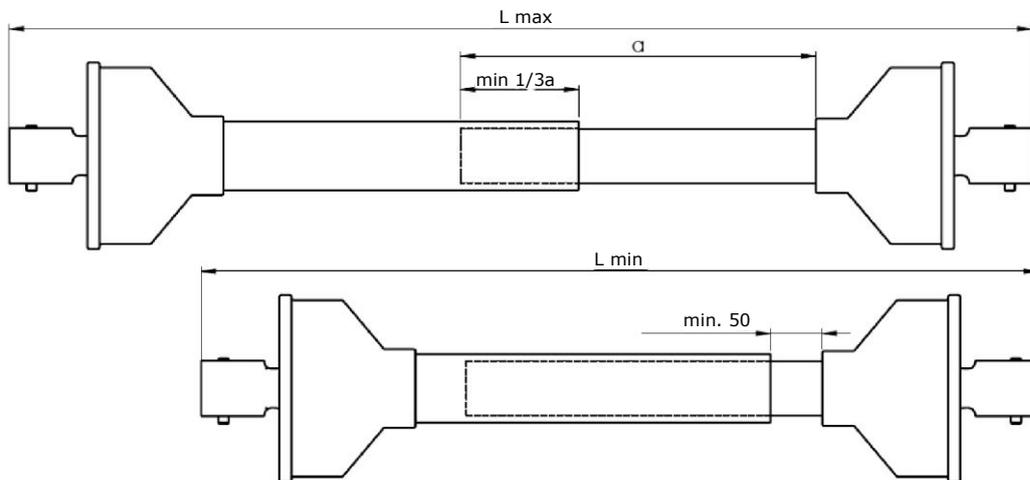

Figure 16. Adjusting the length of the shaft when the spreader is connected to the tractor
- Make sure that the PTO shaft transmitting the tractor's drive is of sufficient length when connected in all possible positions of the tractor in relation to the machine (Figure 16).